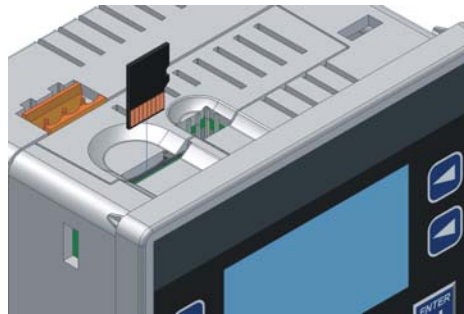

Figure 8-1 – Installing Removable Memory Card
*To install a Micro SD card:* Align its 8-pin gold edge connector down, facing the front of the XLe/XLt unit as shown in **Figure 8-1**; then carefully push it all the way into the Memory slot. Ensure that it clicks into place.